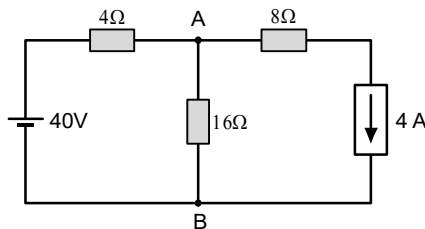

Fig.1.79: Given network
3. Determine current through 16Ω resistor in the following network (fig.1.79) using superposition theorem.